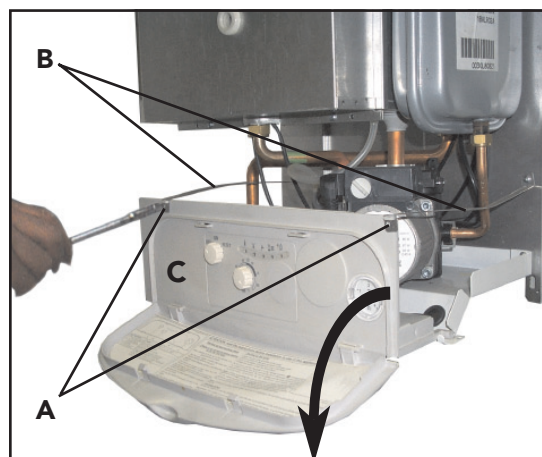

Fig. 21
To lower the control panel (fig. 21)
- Remove the two fixing screw (fig. 21) "A"